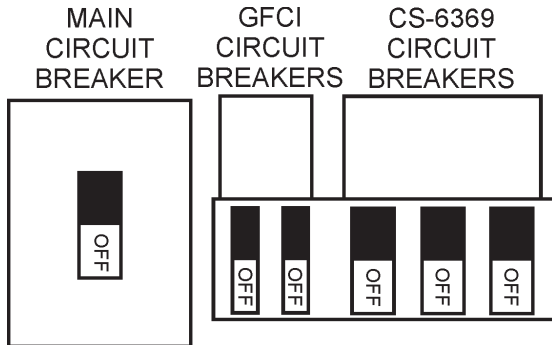

Figure 28. Main, Aux. and GFCI Circuit Breakers (OFF)
- Place the **main, G.F.C.I.,** and **aux.** circuit breakers (Figure 28) in the **OFF** position prior to starting the engine.